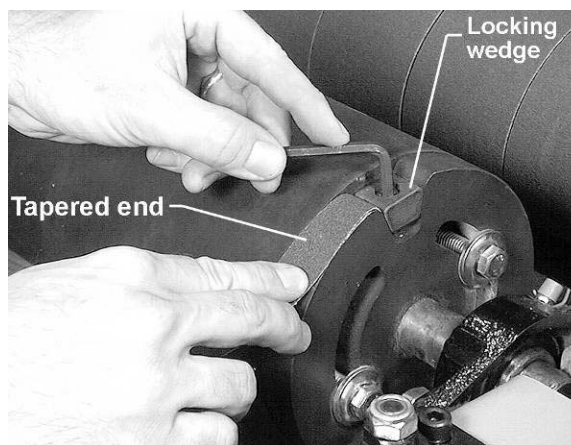

Figure 8
2. Remove the socket head cap screw and locking wedge (Fig. 8) from both ends of the drum.
5. Begin at the right end of the drum and tuck the tapered right end of the abrasive roll into the recess (Fig. 8). Place the locking wedge into the recess and tighten firmly with the socket head cap screw.